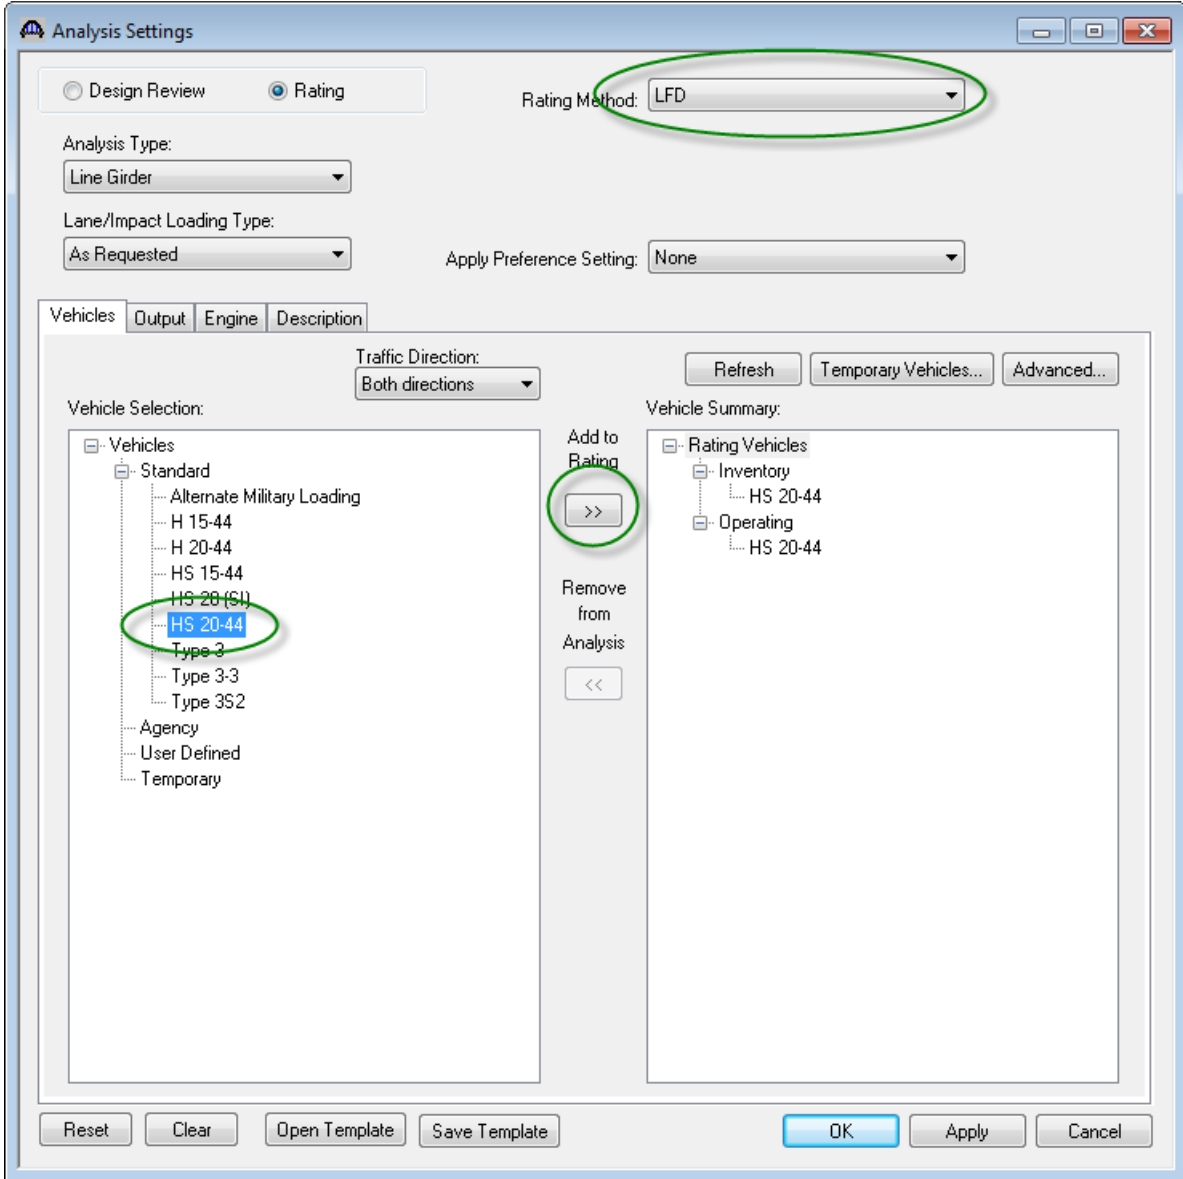

Fig 4. Analysis Settings Window
After selecting the member alternative “Plate Girder (E) (C)”, go to toolbar and click on the “View Analysis Setting” button (Fig 3). Once Analysis Setting button is clicked Analysis Setting window will pop up (Fig 4).
On Analysis Setting window select Rating Method as LFD. Go to Vehicles Selection column and select “HS 20-44” vehicle and click on “Add to Rating” button. Now Analysis Settings window will be as shown in Fig 4.